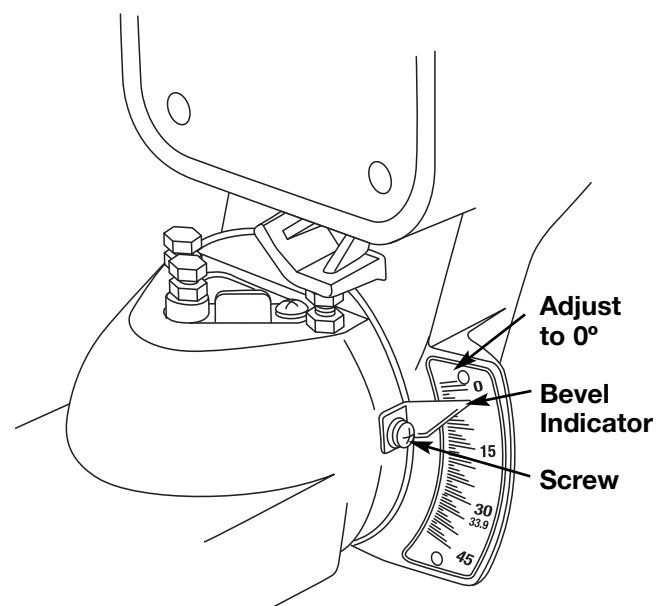

Figure 8. Bevel Indicator
7. Adjust bevel indicator. Loosen screw and align indicator to the 0° mark. Tighten screw (Figure 8).